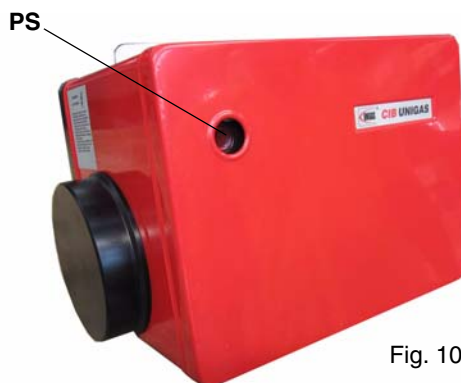

Fig. 10
- 9 turn the burner on; if it locks out, press the unlock pushbutton (**PS** - Fig. 10) placed in the burner upper side and repeat the procedure.